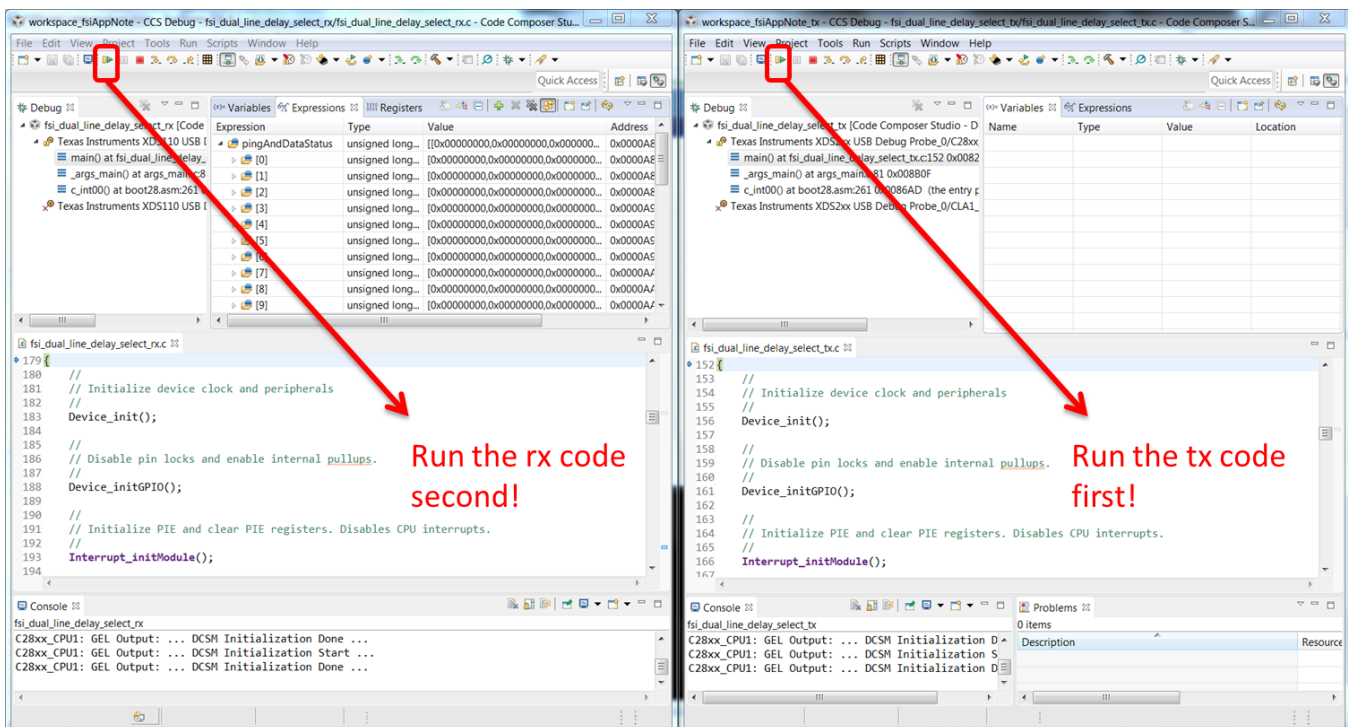

Figure 17. fsi_dual_line_delay_tx And fsi_dual_line_delay_rx Example Software in Debug Perspective
2. The fsi_dual_line_delay_rx project must be started. It takes some time for this example to finish. The CPU halts when the example is finished and the result is saved in variable named "pingAndDataStatus", which is a 32 x 32 element array. The first index of the array 0-31 represents the RXCLK delay from 0 to 31. The second index of the array 0-31 represents the RXD0 delay from 0 to 31. The value of each pingAndDataStatus[x][y], where x is the RXCLK delay and y is the RXD0 delay, represents the bit-packed status of ping and data transmission for the RXD1 delay from 0-31. Therefore, pingAndDataStatus[12][10] = 0x00001FF0 means that data and ping transmission was successful for RXCLK delay = 12, RXD0 = 10, and RXD1 delay = 4-12. Figure 17 shows two instances of CCS, one with fsi_dual_line_delay_tx and the other with fsi_dual_line_delay_rx, in debug perspective.